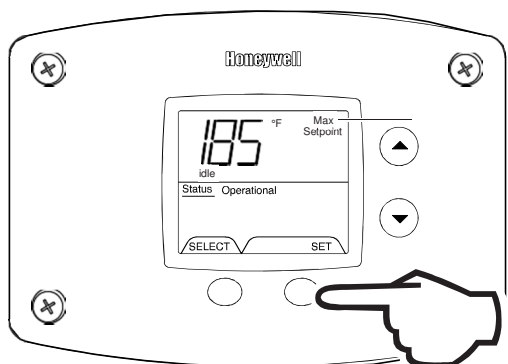

Figure 39
1. In service mode press the 'Select' button until 'Max Setpoint' is displayed (Fig. 39).